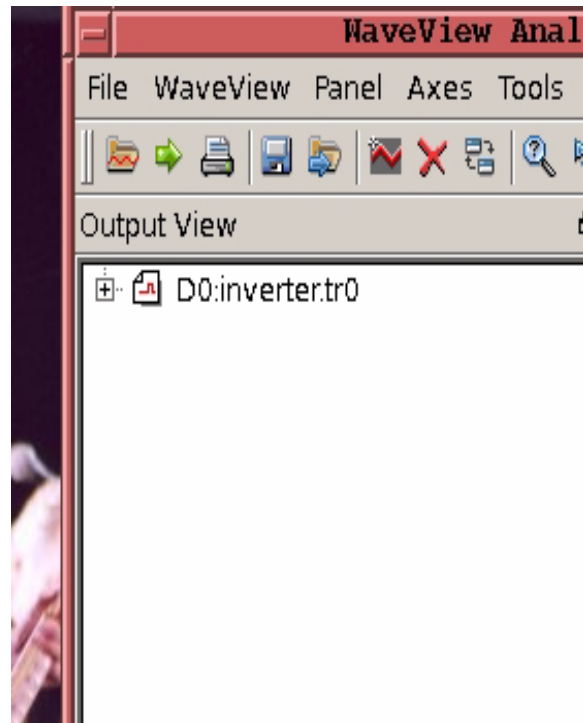

Figure 4: Output View portion of Waveform window.
7. From the Open: Waveform Files window, select an output file to open and then select **Ok**. The name of the file will appear in the Output View portion of the Waveform Analyzer as indicated in Figure 4.